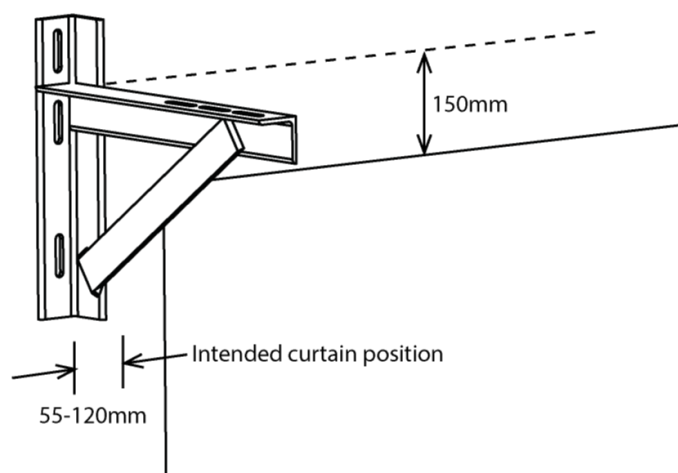

Figure 3.1
- e. Fix hanging bracket with 2 x TEK 17 x 75mm screws and flat washers. Refer to Figure 3.1 for correct orientation.